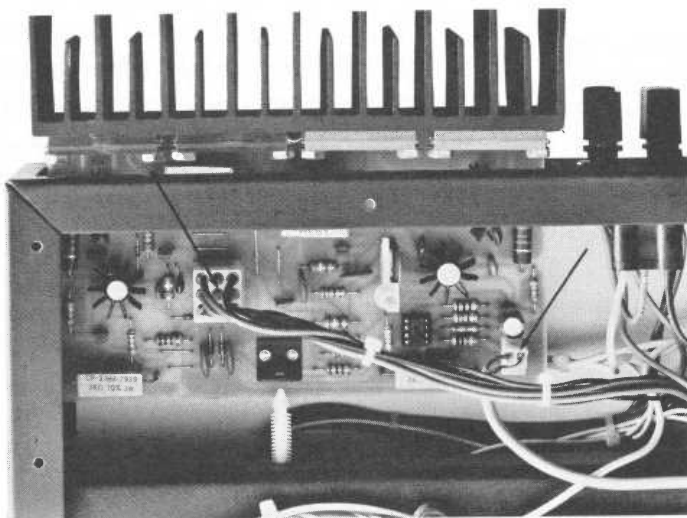

Figure 9-1b.
2) Turn the amplifier upside down and pull the power module a slight distance away from the chassis. Disconnect the 7-wire connector socket and the 2-wire signal input connector (see fig. 9-1b).